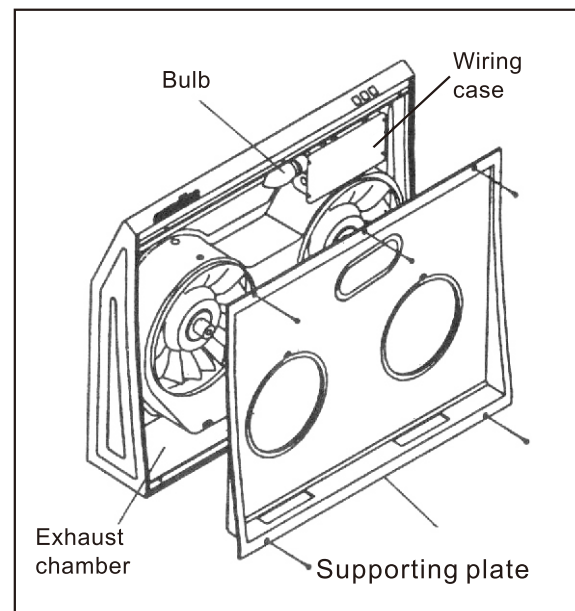

Fig.11 Remove the middle support plate
7. Loosen the screws on the supporting plate with a philips screwdriver. (Fig. 11 )